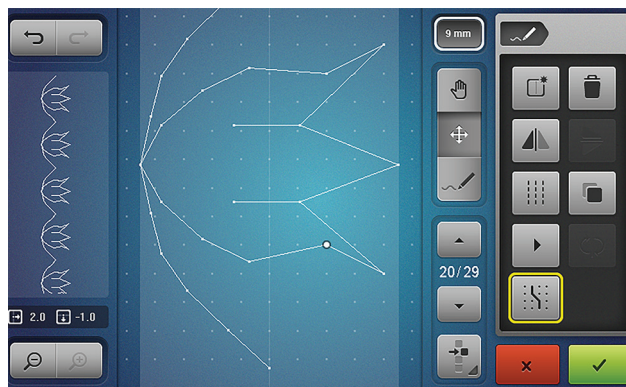

Fig. 30
7.  Tap the Select All Points icon (Fig. 30).